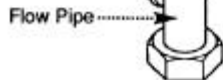

Fig. 131
4. Undo the nut on the gauge capillary at the boiler flow connection (Fig. 131).